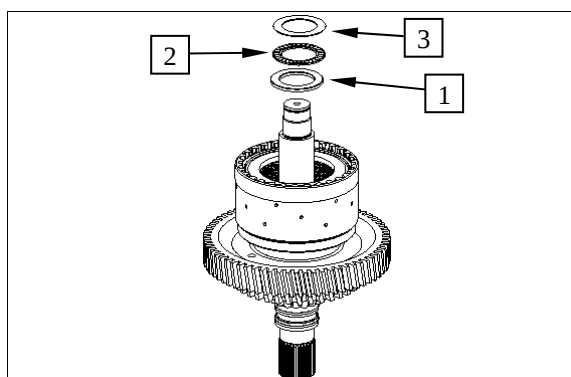

Figure 17
**Contact for axial bearing - see Figure 17!**